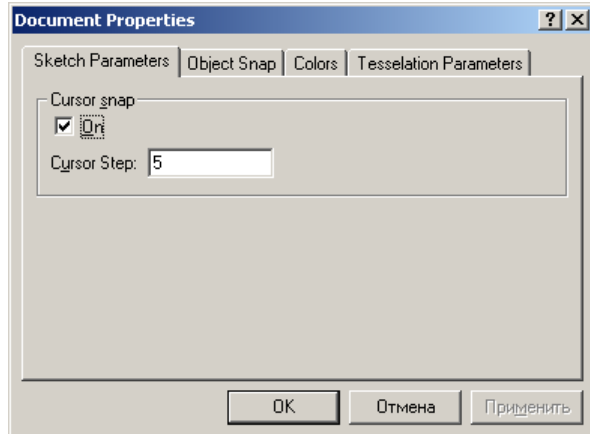

Fig. 3.3.1 Document Properties dialog box (Sketch Parameters)
This command enables a dialog box for document setting (Fig. 3.3.1). This dialog box includes 4 sheets: *Sketch Parameters*, *Object Snap*, *Colors*, *Tessellation Parameters*.
**Sketch Parameters.** After activation of this sheet (Fig. 3.3.1) you can turn on a mode of discrete cursor movement in an invisible grid. The beginning of the coordinate system of the invisible grid coincides with the beginning of the coordinate system of the active sketch. The discrete step equals to the cursor step in mm.